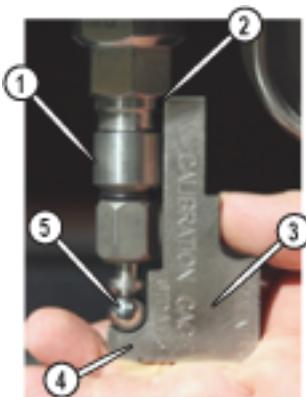

Figure 6
4. Install the **ball stem assembly** for the **nozzle type** being used into the **nozzle body**(Figure 6).